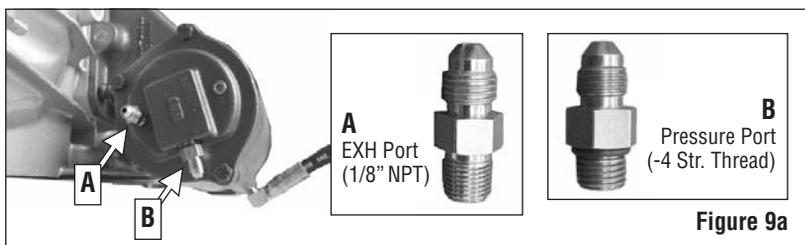

Figure 9a
- 21.** Remove the cap plugs from the closed end cover on the PTO. Install the straight thread fitting into the port which is pointed towards the ground. Install the pipe thread fitting into the port located on the end of the cover. *Figure 9a*